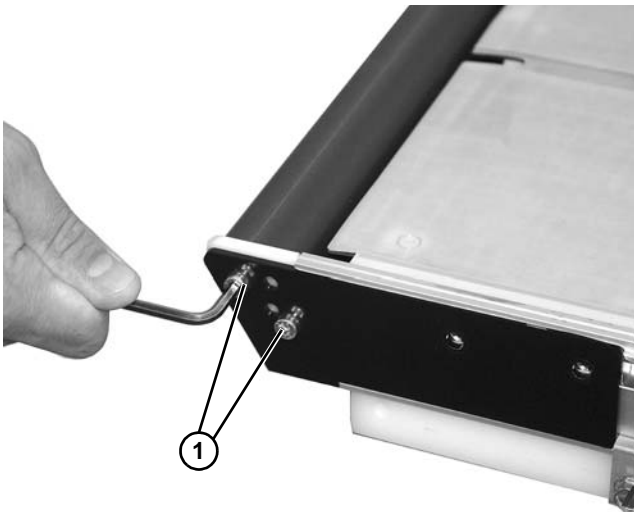

Figure 50
2. On the same side of conveyor, remove two (2) fastening screws (Figure 50, item 1).